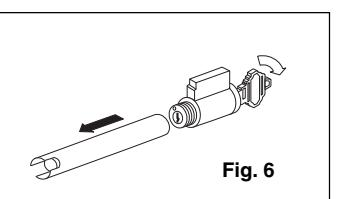
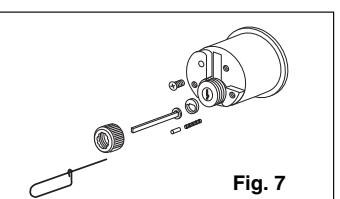

Fig. 6
Fig. 7
2. Once cylinder plug is completely inserted, align pins by turning cylinder plug 1/8 of a turn to an upright (or vertical) position. (Fig. 6) Place spring, pin and tailpiece in cylinder and rescrew cap. Replace cylinder housing in lock assembly. Test and remove key. (Fig. 7)